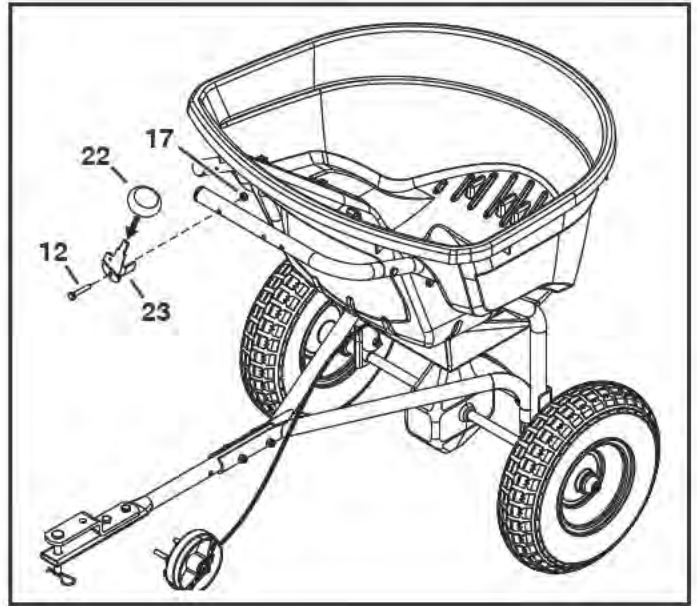

FIGURE 6
STEP 6: (SEE FIGURE 6)
- Press the knob (22) onto the end of the flow control lever (23).
- Attach the flow control lever (23) to the control tube (6) with a 1/4" x 1-1/2" hex bolt (12) and 1/4" lock nut (17). Leave the lock nut loose enough that the lever can pivot.